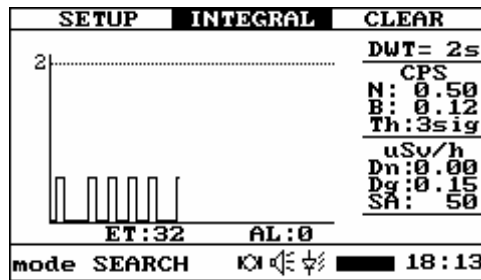

Figure 8. SEARCH mode screen view
1.3.3.4. On completion operation in BACKGROUND mode, NSD turns into the SEARCH mode, that is used for searching and localization neutron sources as well as verification of alarms. Fig. 8 shows the SEARCH mode screen view.